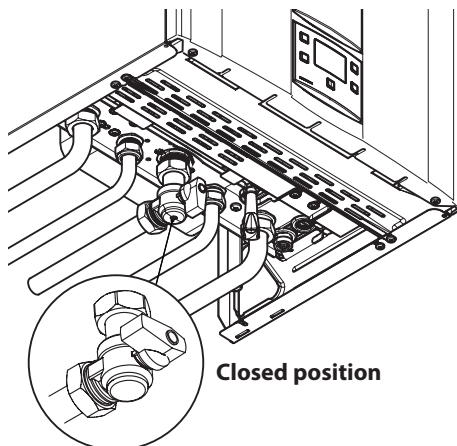

Figure 2.14
- Close the boiler cocks (Figure 2.14);